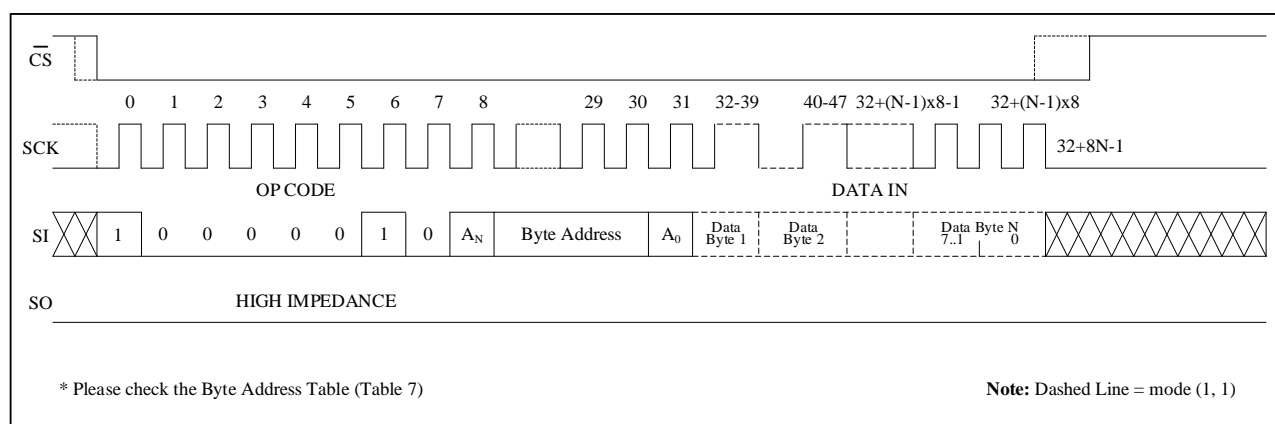

Figure 6
Write Identification Page: The additional 256-byte Identification Page (IP) (256 bytes) is an additional page which can be written and (later) permanently locked in Read-only mode. Writing this page is achieved with the Write Identification Page instruction, according to timing shown in Figure 6. Address bit A10 must be 0, upper address bits are Don't Care, the lower address bits [A7:A0] address bits define the byte address inside the identification page. The byte address must not exceed the 256-byte page boundary.
Write Status Register: The Status Register is written by sending a WRSR instruction according to timing shown in Figure 6. Only bits 2, 3, 4, 5, 6 and 7 can be written using the WRSR command.